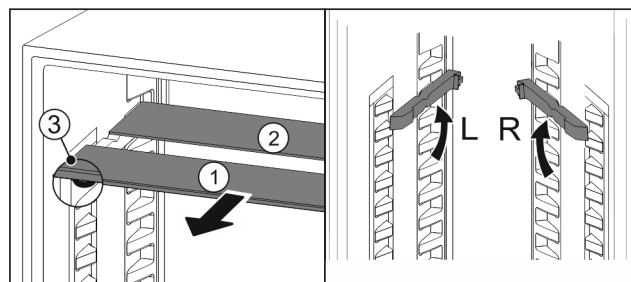

Fig. 72
- ▶ Pull the glass panels out Fig. 72 (1) from the front, one at a time.
- ▷ The glass panel Fig. 72 (1) with the trim strip is at the front.
- ▷ The stops Fig. 72 (3) point downward.